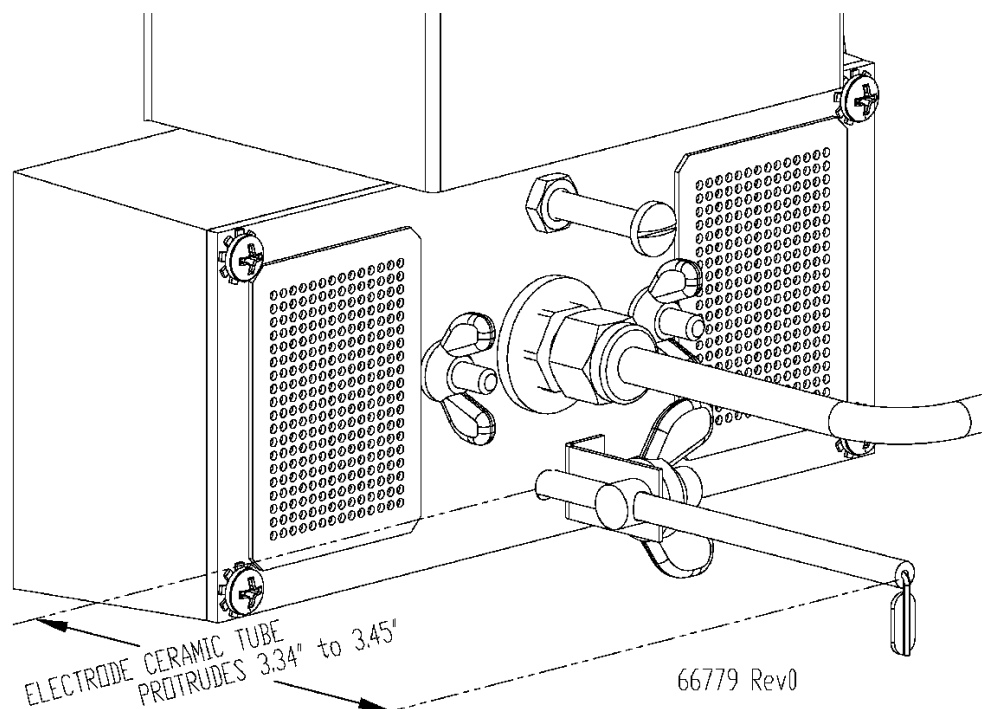

Figure 26 - Electrode Protrusion from Air Box Lid
3. Slide the electrode back into position through the burner back until it stops, and then pull it back 3 to 6 mm (1/8 to 1/4 in.). Refer to Figure 26, make sure the ceramic electrode does not protrude more than 3.45".